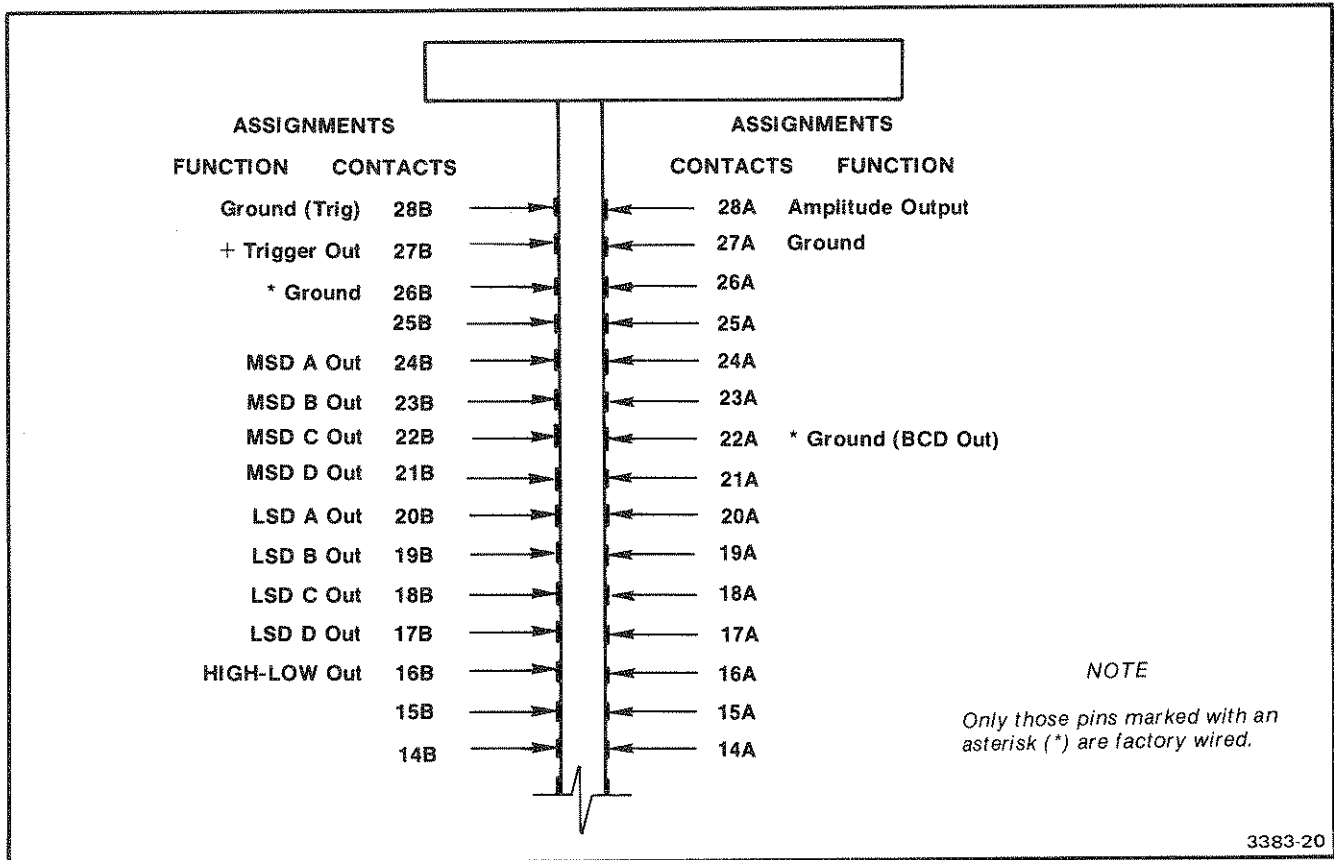

Fig. 5-1. Pin assignments for the PG 506 (rear view, partial).
**Pin Assignments.** Besides those pins used to connect the PG 506 to the power module (1-15, A & B), other pins are available to output signals to the interface so that they may be connected to other plug-ins through the interface. Fig. 5-1 shows the pins and their assignments.